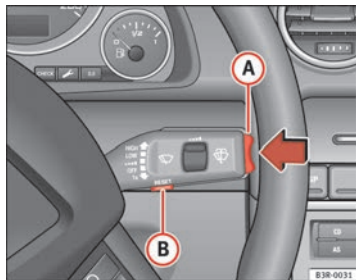

Fig. 58 Windscreen wiper lever: Function selector switch
- To change the speed limit, press the top or bottom of the function selector switch on the windscreen wiper lever (A ⇒ fig. 58). The speed limit displayed will then increase or decrease by 10 km/h at a time.
- Now press and hold the Reset button on the windscreen wiper lever (B ⇒ fig. 58) until the crossed out warning symbol for speed limit 2 appears on the display.